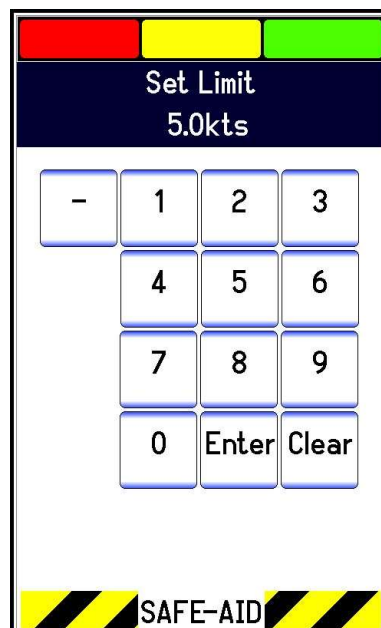

Figure 24
2. Enter the four digit password [- - -] followed by the **Enter** button the Set Limit screen will be displayed (figure 24).
1. Press the top left hand corner and the **Password** screen will be displayed (figure 24).